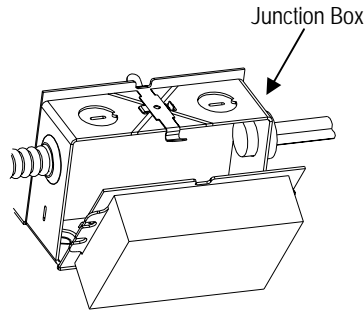

Figure 5
5. Remove knockouts on junction box to feed power supply to fixture as shown in Figure 5. Supply wire must meet applicable electrical codes and be rated for a minimum of 90°C. Junction box is thru-wire rated for 8-No. 12 AWG conductors (4in-4out)
6. Complete necessary wire connections. Snap the door onto the junction box as shown in Figure 5. If the ballast is desired on the opposite side of the junction box, pass the entire door and ballast assembly through the junction box and snap into place.
3. Remove knockouts on junction box to feed power supply to fixture as shown in Figure 5. Supply wire must meet applicable electrical codes and be rated for a minimum for 90°C. Junction box is thru-wire rated for 8-No. 12 AWG conductors (4in-4out).
4. Complete necessary splices. Snap the door onto the junction box as shown in Figure 5. If the ballast is desired on the opposite side of the junction box, pass the entire door and ballast assembly through the junction box and snap into place.